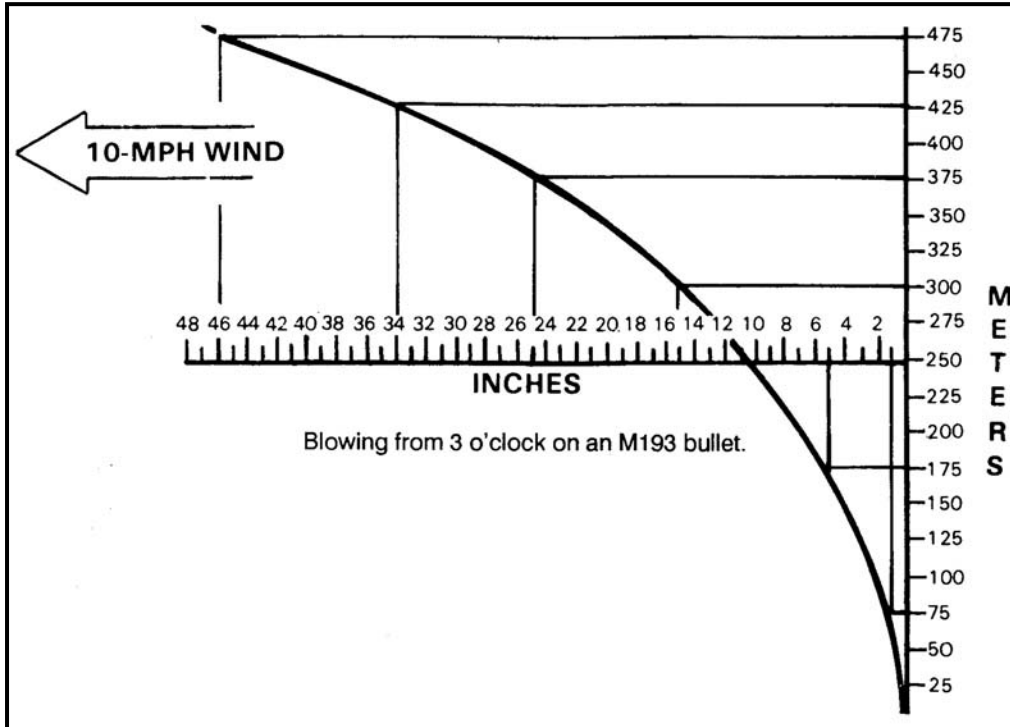

Figure 7-40. Windage effects of a 10-mph crosswind.
* (2) **Windage.** When firing during windy conditions and there is no time to make sight adjustments, the SDM must use hold-off to adjust for windage (Figure 7-40, page 7-56). When holding off, the SDM aims into the wind. If the wind is moving from the right to left, his point of aim is to the right. If the wind is moving from left to right, his point of aim is to the left. Constant practice in wind estimation can bring about proficiency in making sight adjustments or learning to apply hold-off correctly. If the SDM misses the target and the point of impact of the round is observed, he notes the lateral distance of his error and re-fires, holding off that distance in the opposite direction. Table 7-10 shows calculated adjusted aiming points based on wind speed.